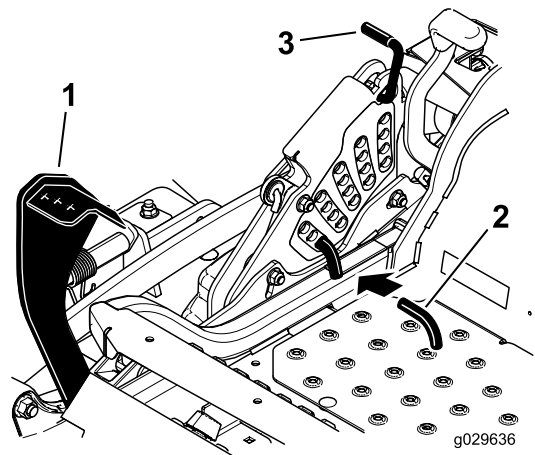

Figure 27
2. Push on the deck-lift pedal with your foot and raise the mower deck to the Transport position (also the 140 mm or 5-1/2 inch cutting-height position) as shown in Figure 27.
3. To adjust, rotate the pin 90 degrees and remove the pin from the height-of-cut bracket (Figure 27).
4. Select a hole in the height-of-cut bracket corresponding to the height-of-cut desired, and insert the pin (Figure 27).